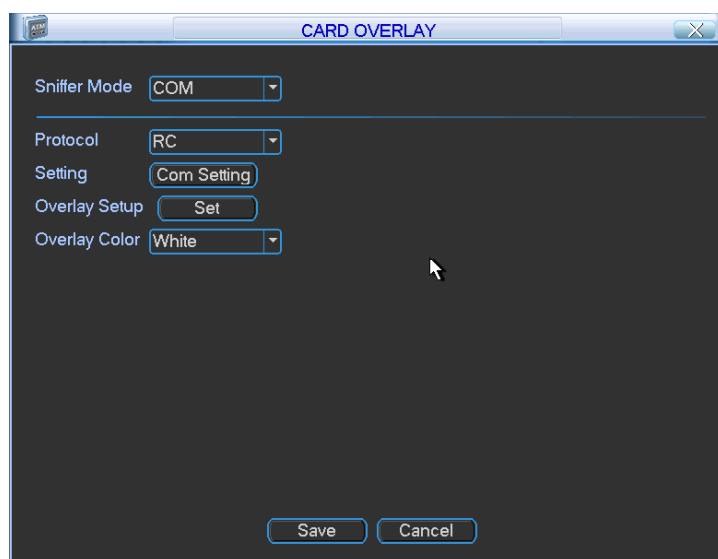
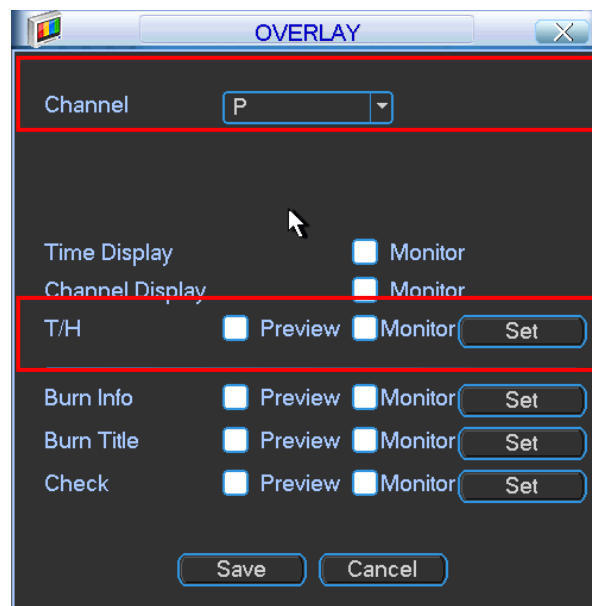

Figure 2-26
Figure 2-28
On the preview interface, right click mouse and then select main menu->advanced->card overlay. The interface is shown as in Figure 2-26.
In Figure 2-26, select PIP channel from the dropdown list and then click overlay setup button, you can see the following interface. See Figure 2-28.
- In Figure 2-28, click Set button, you can set overlay position.
On the preview interface, right click mouse and then select main menu, from main menu->advanced->card overlay. The interface is shown as in Figure 2-26.
In Figure 2-26, select the PIP channel (channel P) to overlay temperature/humidity information. Click overlay setup button, you can see the following interface. See Figure 2-28. Check the preview or monitor mode and then click Save button.
- In Figure 2-28, click Set button, you can set overlay position. You need to select channel P (PIP) to overlay information.